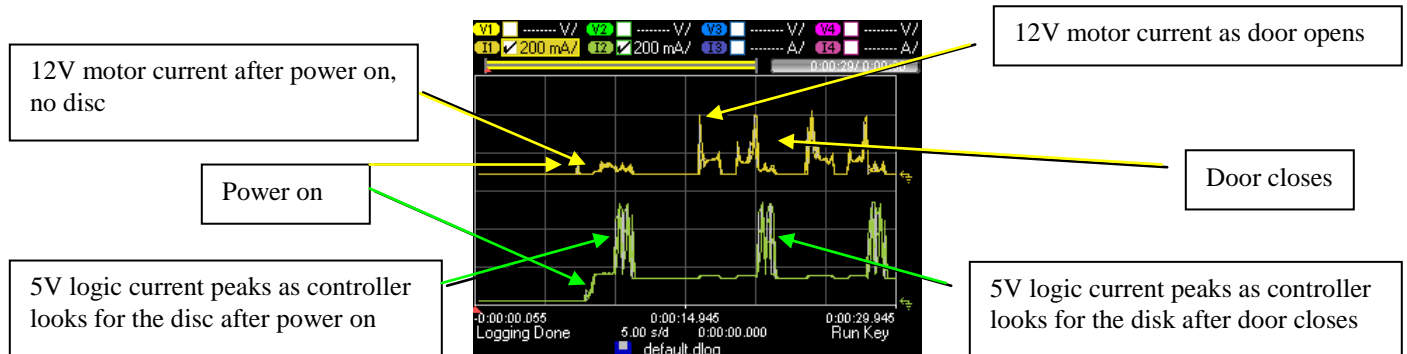

Figure 11 – Logged CD Drive Current Data
13. Once data is captured, you can use the “Vertical-Offset” and “Time / Div” knobs to zoom in on the waveform and inspect particular areas for more details (see Figure 11 below).